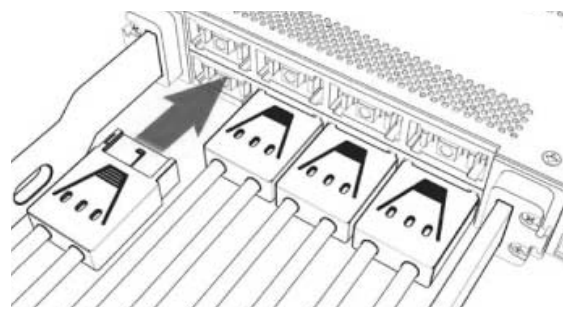

Figure 13. Output Connections
**Step 2.** Insert the connector into the desired output position until it clicks (see Figure 13). The connector is keyed to prevent reverse polarity. Refer to the output circuit map label for output circuit mapping information.